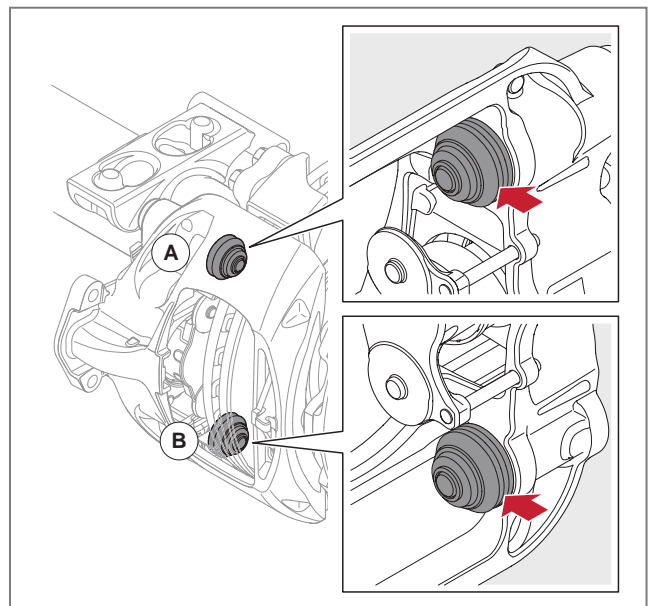

Fig. 28 - Inspecting the guide pin bellows
15. Inspect the fixed bearing guide pin bellows (A) and the floating bearing guide bolt bellows (B), see ► *Fig. 28*. Inspect all around the bellows for signs of damage as a result of debris, stones or overheating.